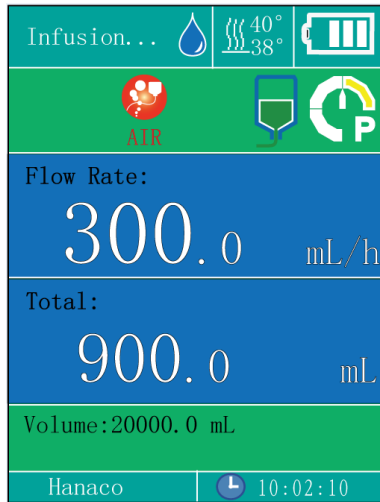

Figure 4.2 Pump running
- LCD display animation of the drop. This means the pump is working normally. At the bottom of LCD shows total volume infused in ml unit with an enlarged font. Refer to figure 4.2.